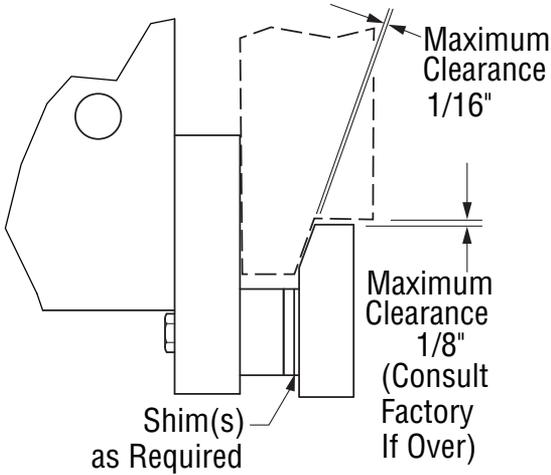

Figure 3-1, Lower Retainer Clearance
5. Install the bolt-on lower retainers. Inspect clearance between the carriage and the retainers. Adjust the lower retainers for a maximum clearance of **1/16"** (see Figure 3-1). Tighten the bolts to **40-50 ft-lbs**.